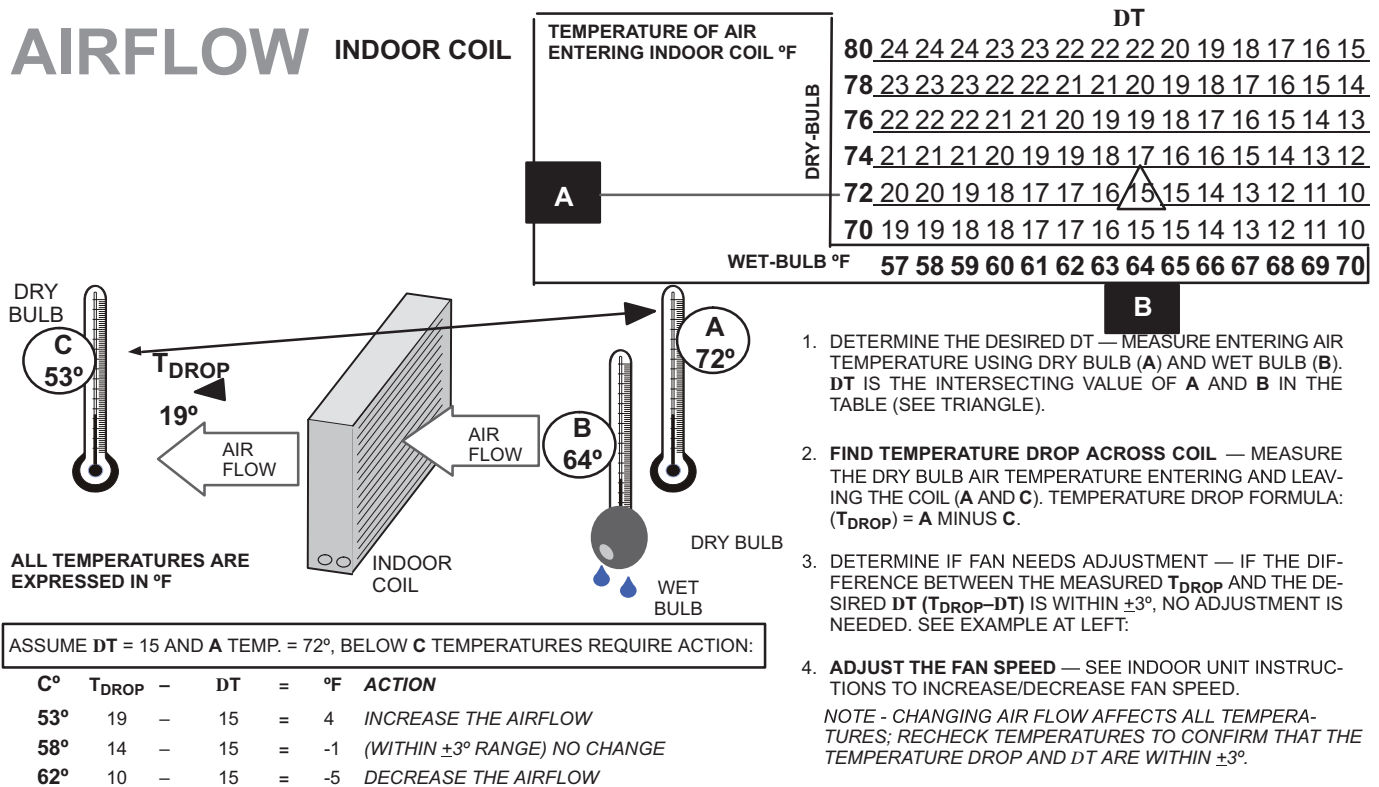

FIGURE 54. Checking Indoor Airflow over Evaporator Coil using Delta-T Chart
- 2 - Check and adjust indoor airflow as described in figure 54.
Check airflow using the Delta-T (DT) process using the illustration in figure 54.